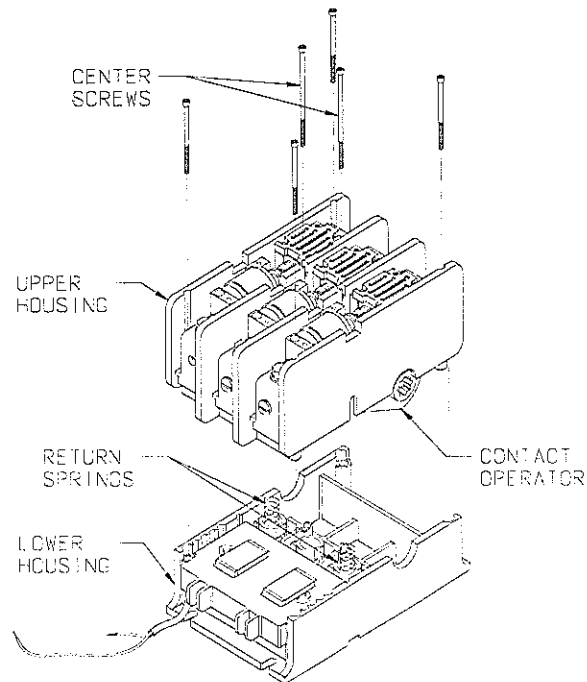

FIGURE 3B
5. Remove the (6) screws that secure the Upper Housing to the Lower Housing by first removing the (4) outer screws and then (2) center screws. **NOTE-** removing the center screws will release the Return Springs. Carefully remove the Upper Housing leaving the Return Springs in the Lower Housing (FIGURE 3B).
4. Remove the Control Pak from the contactor and set on tabletop (FIGURE 3B).